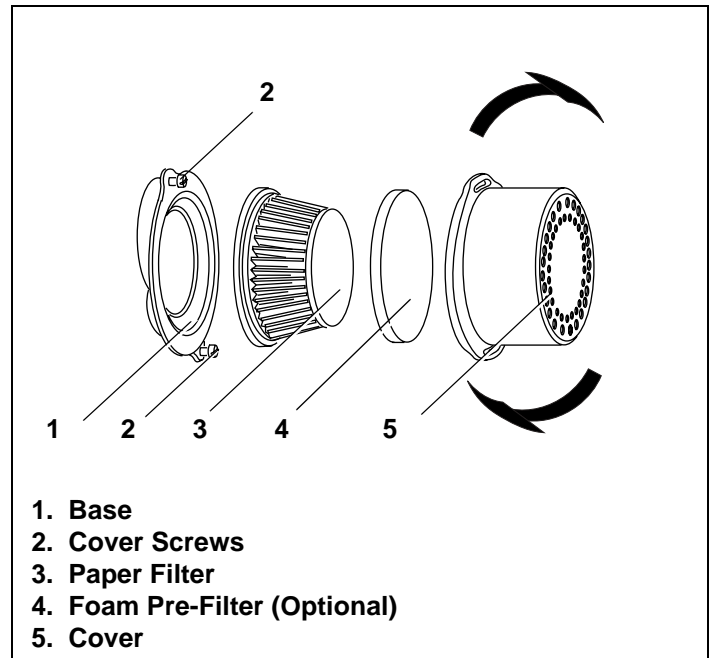

Figure 41. Type "A" Air Cleaner Assembly
Your engine has an air cleaner which helps prevent premature engine wear and failure. NEVER run engine without complete air cleaner installed on engine. Your air cleaner's filter(s) periodically needs to be cleaned or replaced. Your engine will be equipped with one of the following air cleaners; Type A, B, C, D or E. Follow instructions for the air cleaner type that resembles your model. See Figures 41 thru 45.
1. Loosen cover screws. See Figure 41.